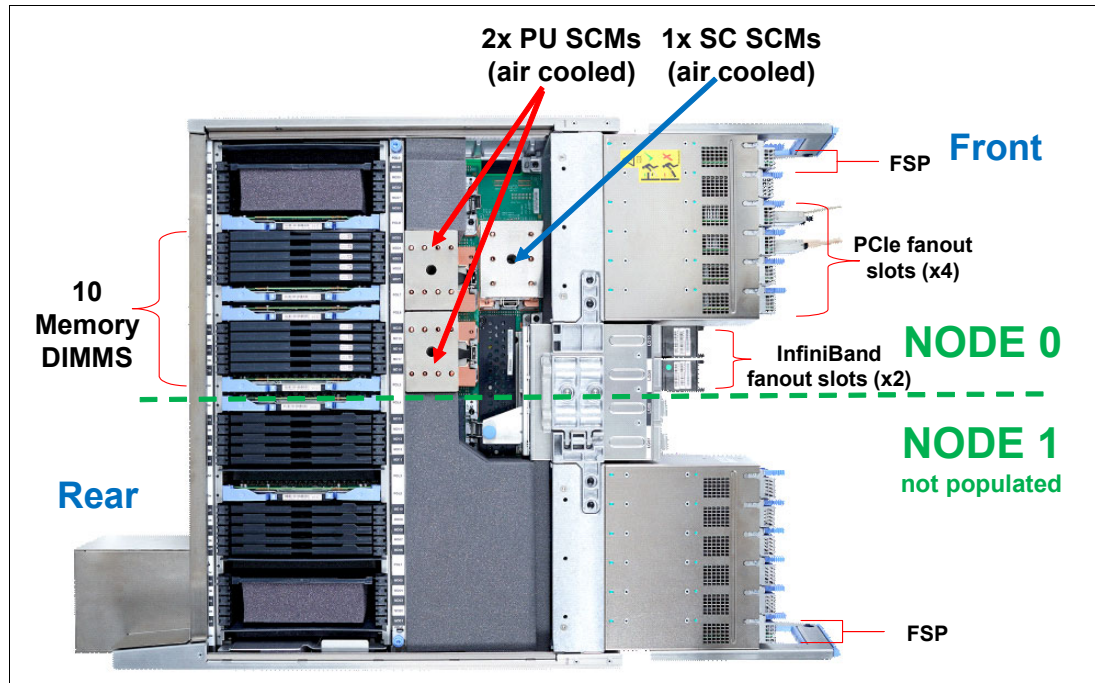

Figure 2-4 Model N10 components (top view)
z13s servers can have up to two CPC drawers installed (the minimum is one CPC drawer). The contents of the CPC drawer and its components are model dependent. The Model N10 CPC drawer that is shown in Figure 2-4 has a single node, half the structure of the Model N20 CPC drawer that has two nodes.
- ▶ Single node drawer contains (Figure 2-4):